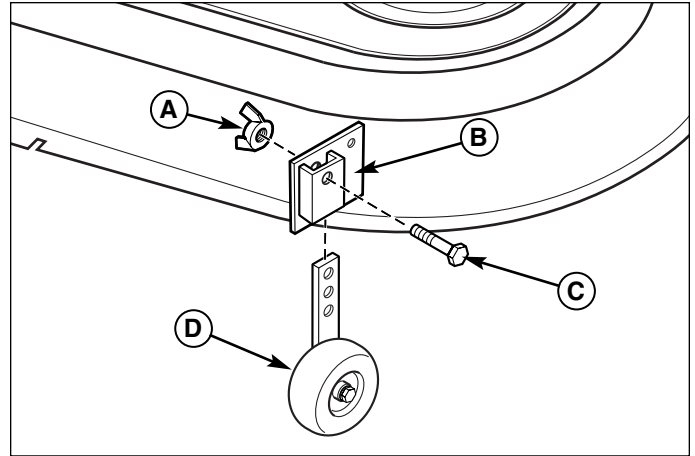

Figure 47. Sliding Bracket Gauge Wheel Adjustment
1. Remove the nylock wing nut (A, Figure 47) from cap-screw (C). Slide out capscrew (C) from gauge wheel bracket (B). Change position of gauge wheel assembly to desired height.
2. Insert capscrew (C) through gauge wheel bracket (B) and gauge wheel assembly (D). Tighten nylock wing nut (A). Repeat Steps 1 & 2 for all gauge wheels.